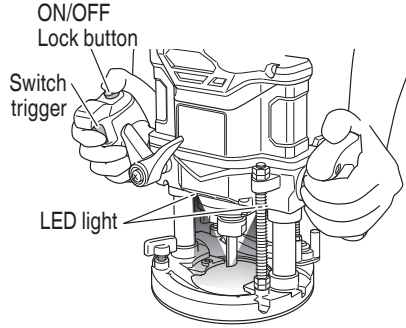

Fig. 28
2. How to use the LED light (Fig. 28)